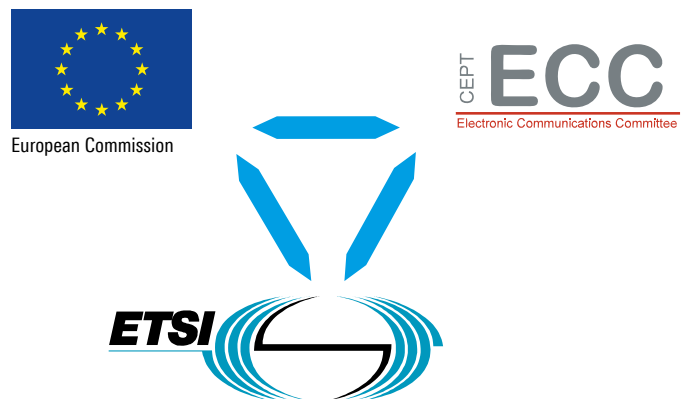

Fig. 1: Regulatory bodies governing radio operation in Europe.
Whoever wants to transmit or receive radio signals in Europe must comply with the relevant European directives governing the approval of radio equipment. These directives are developed in close cooperation between the European Commission as a body taking an active part in political decision-making, the European Electronic Communications Committee (ECC) within the European Conference of Postal and Telecommunications Administrations (CEPT), both of them guardians of the ever more valuable frequency resources, as well as the European Telecommunications Standards Institute (ETSI, Fig. 1). In addition to general requirements relating, for example, to the protection of health and safety or environmental compatibility, the directives also contain fundamental technical requirements. All radio equipment must fulfill what is referred to as “essential requirements” in the applicable directives, during normal operation and under the operating conditions specified by the manufacturer (ambient temperature, humidity, etc.). Evidence of compliance must be furnished by the radio equipment manufacturer or operator as a prerequisite for obtaining approval for operating the equipment and putting it on the market. To this end, the manufacturer or operator must submit a test report that has been issued by a certified test laboratory using validated measuring equipment, for example from Rohde&Schwarz. Technical details on the diverse radio applications and frequency bands falling under the directives are specified in the “harmonized standards” developed by ETSI, along with possible test methods to demonstrate compliance. Harmonized standards become effective as European standards (EN) following a thorough examination by the regulatory bodies. Fig. 2 presents important examples of these standards. The currently applicable European standards are listed in the Official Journal of the European Union. An overview can be found on the ETSI website ([www.etsi.org](http://www.etsi.org)).